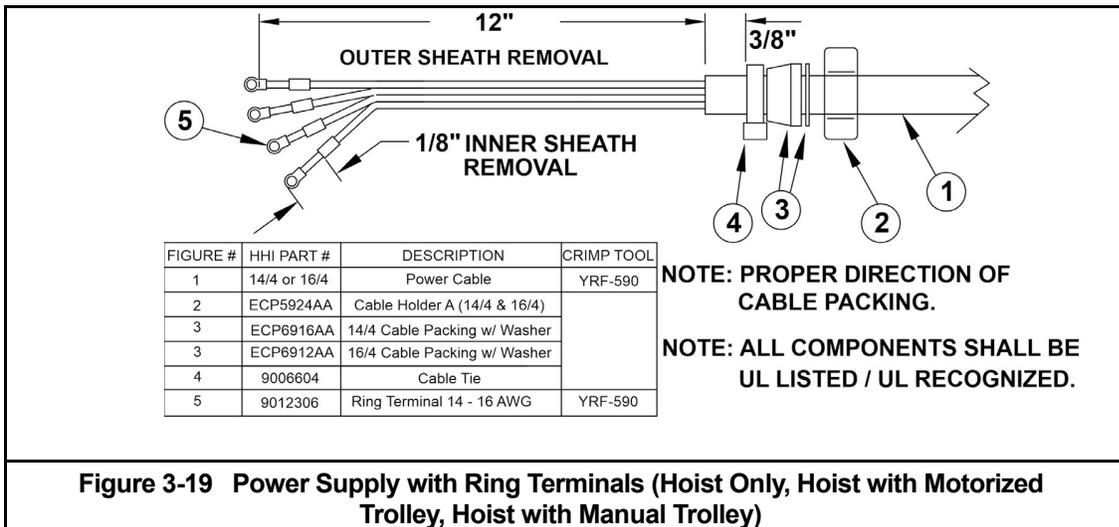
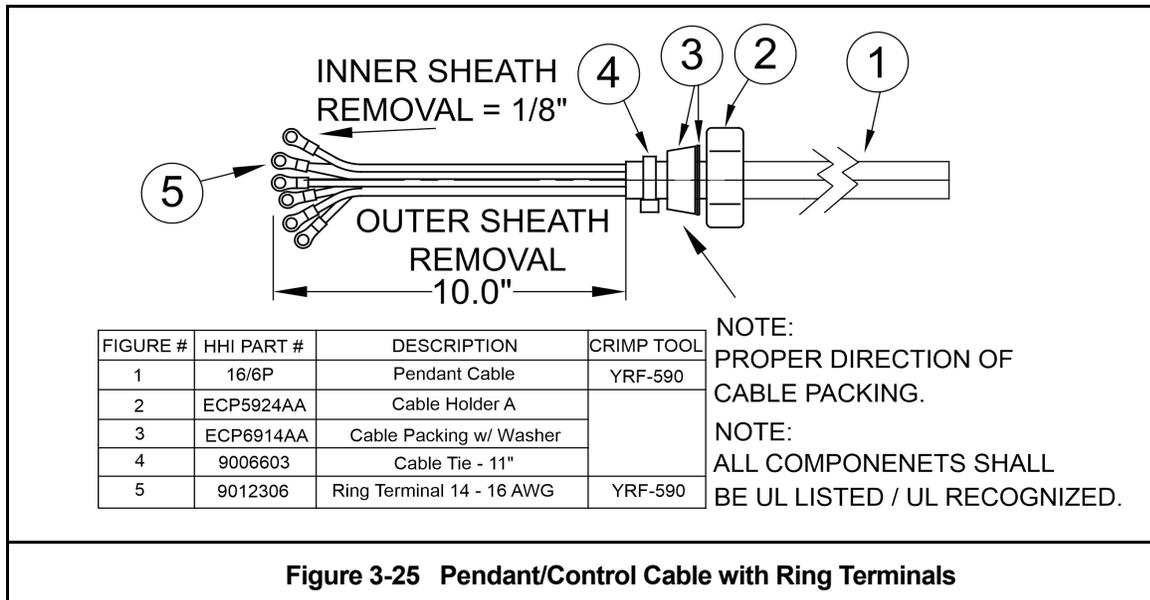

Figure 3-19 Power Supply with Ring Terminals (Hoist Only, Hoist with Motorized Trolley, Hoist with Manual Trolley)
Figure 3-25 Pendant/Control Cable with Ring Terminals
Note: Remove Harness (ER2BI95551 or ER2EI95551). Power Supply Cable and Ring Terminals provided and/or installed by customer. See **Figure 3-19** for Cable assembly instructions. Please refer to **Table 3-7** and **3-8** for applicable cable sizes.
- **Connect Power Supply Cable (See Figure 3-19, 3-26, and 3-27)**
See **Figure 3-19** for Power Supply Cable assembly instructions. Refer to **Page 41** for applicable cable size. See **Figure 3-25** for Control Cable assembly instructions.
See **Figure 3-19** for Cable assembly instructions.